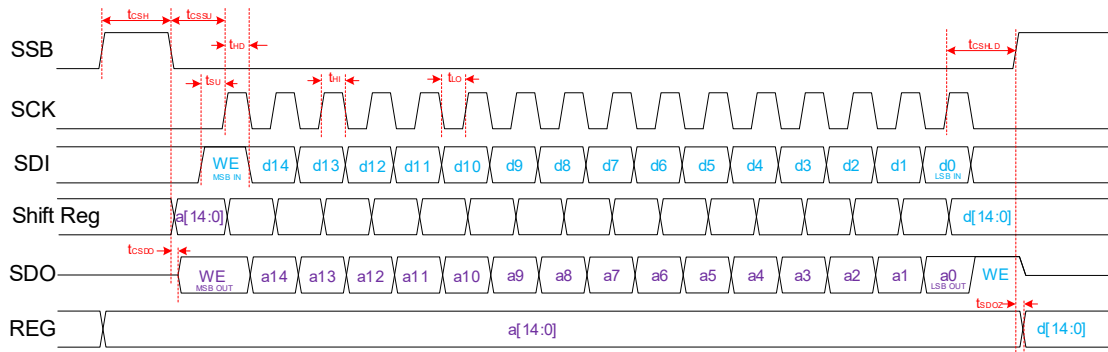
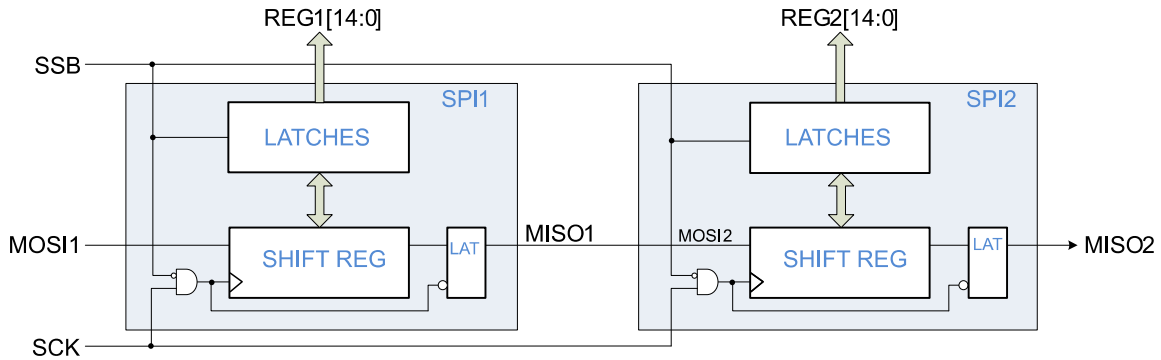
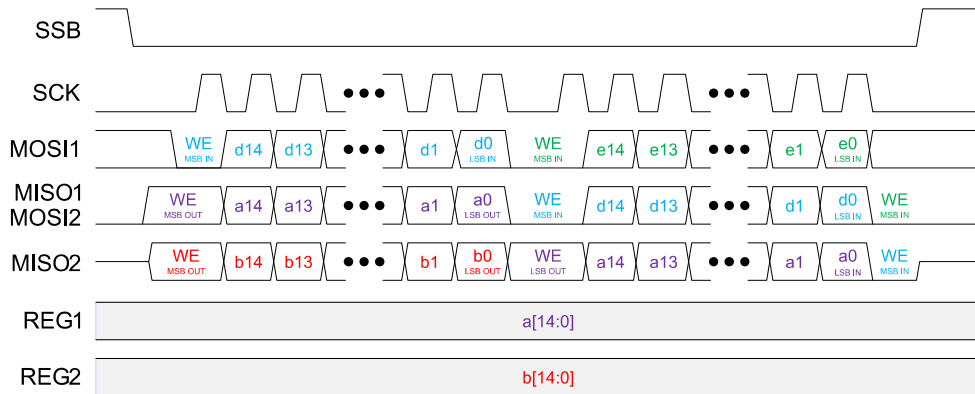
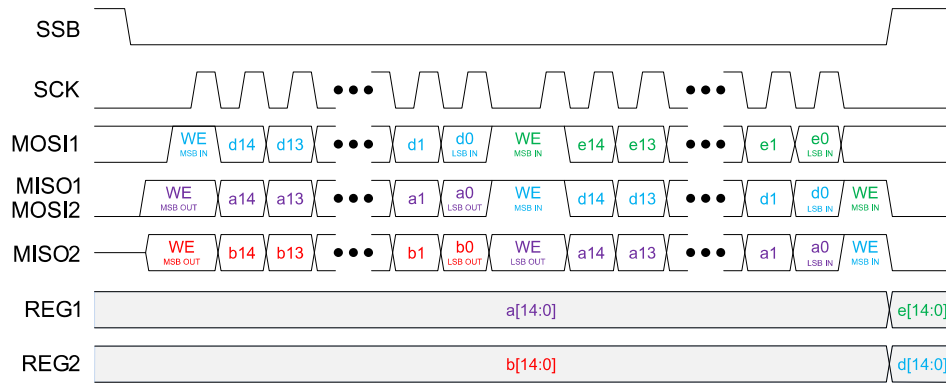

Figure 8. SPI Timing Diagram
Figure 11. SPI with 2 ICs Daisy-Chained
Figure 12. SPI Read Only (2 ICs Daisy-chained)
Figure 13. SPI Read & Write (2 ICs Daisy-Chain)
MODE = 0, activates the 16-Bit Serial Peripheral Interface (SPI) module for operation. Multiple devices can be daisy-chained to drive multiple ICs using one SPI bus (see Daisy Chain Operation, Figure 11., Figure 12. and Figure 13). The SPI works at any frequency up to a maximum of 33 MHz and may operate at significantly lower frequencies if the logic signals adhere to the data setup and hold requirements.
SPI timing diagrams are provided in Figure 8 through Figure 13. In SPI mode, data transmission starts when SSB goes Low, causing the Target to output the Most Significant Bit (MSB) of data to the SDO (MISO) pin. Data transfer from Host to Target takes place during the rising edge of the clock (SCK), which is idle when SSB is High. This mode of operation requires data for Host and Target to be present on SDI (MOSI) before the rising edge of the clock (defining SDI to SCK setup time). Data is pushed out of the SDO (MISO) pin during the falling edge of the clock. After the first 16-bit transaction, Host writes the latest data (DN) to Target, while Target passes its previous (DN-1) stored data to the Host. Data is latched into the internal
Daisy chaining the ICs is permitted and involves connecting the MISO of one chip to the MOSI of the next chip in the chain, as shown in Figure 11. SPI timing diagrams with daisy-chained devices are provided in Figure 12 and Figure 13.